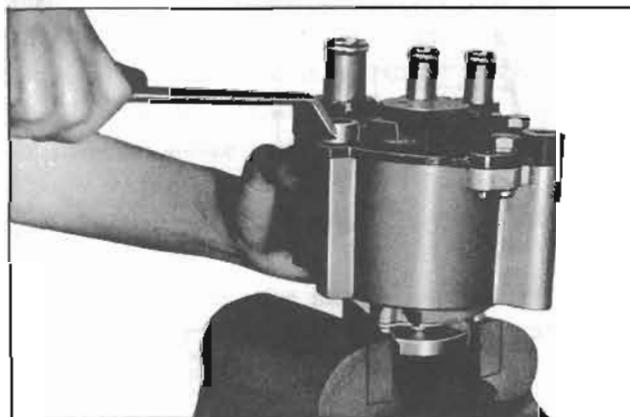

Fig. EC-9 Removing and cover
2. Secure the air drive hub in a vice, as shown in Figure EC-9 and remove four housing end cover bolts.